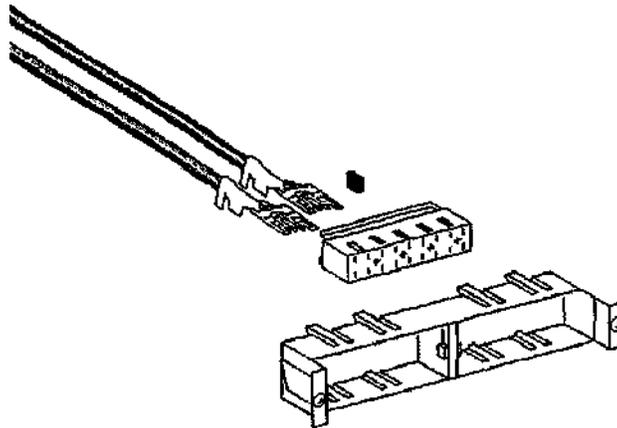

Fig 11, Fuse installation
16. Find an empty fuse position on the driver's seat base electrical center for installing the auxiliary battery circuit fuse (15 A). Gently lift the locking tabs to remove the fuse block from the adapter frame mounting. Release the appropriate terminal lock (red clip) by pushing it upwards and removing it from the fuse block. See **fig.11**.
17. Crimp an electrical terminal A 008 545 79 26 on the end of the red/black 1 mm² wire. Crimp another electrical terminal A 008 545 79 26 on the end of the red/green/violet 1 mm² wire. See **fig.11**. Insert the red/black wire terminal into the top cavity of the selected fuse location and push until it clicks in place. Insert the red/green/violet wire terminal into the middle row cavity of the same fuse location and push until it clicks in place. Install the terminal lock (red clip) and place the fuse block back into the adapter frame mounting. Install a 15 A fuse and note its description, e.g. cut-off relay, aux. battery, 15 A, on the fuse assignment decal on the fuse cover (use permanent ink).